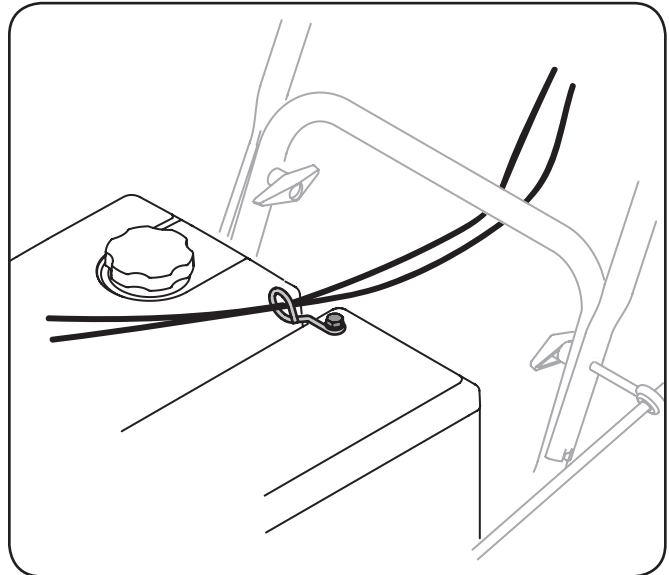

Figure 3-5
6. Check that the chute cables are properly routed through the cable guide on top of engine shroud. See Figure 3-5.